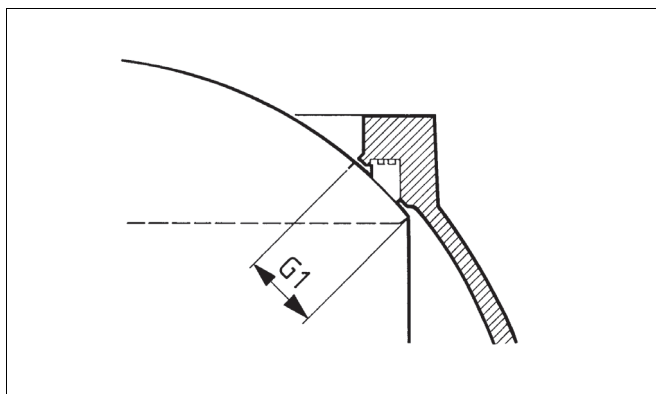

Fig. 20 G1 measure
- Adjust the closed position stop screw so that the end of the G1 line is just visible directly under the edge of the body flow port when the valve is closed, see Fig. 20.